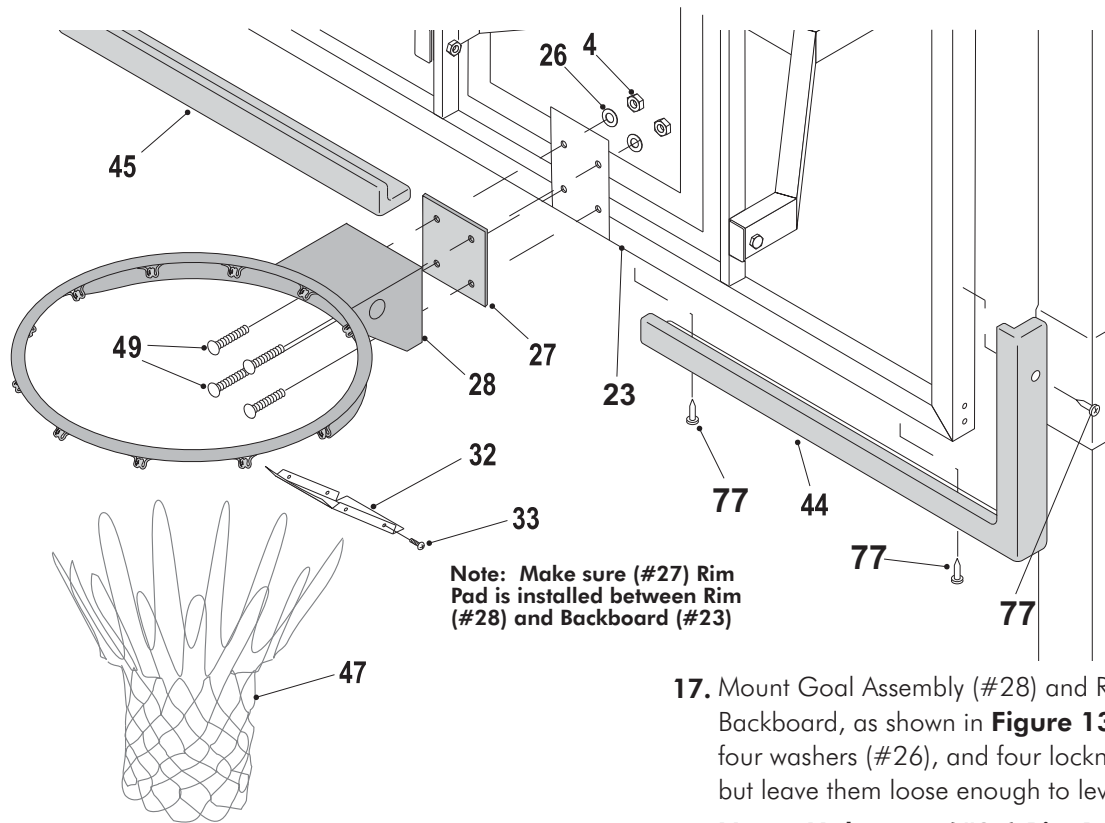

Figure 13
17. Mount Goal Assembly (#28) and Rim Pad (#27) to Backboard, as shown in **Figure 13**, using four bolts (#49), four washers (#26), and four locknuts (#4). Tighten fasteners, but leave them loose enough to level rim.
19. Attach Rim Cover Plate (#32) using four screws (#33). See Figure 13.
21. Use the Backboard Pads (#44) and (#45) as a template and mark the hole locations on the backboard frame. See **Figure 13** and **Detail A**.